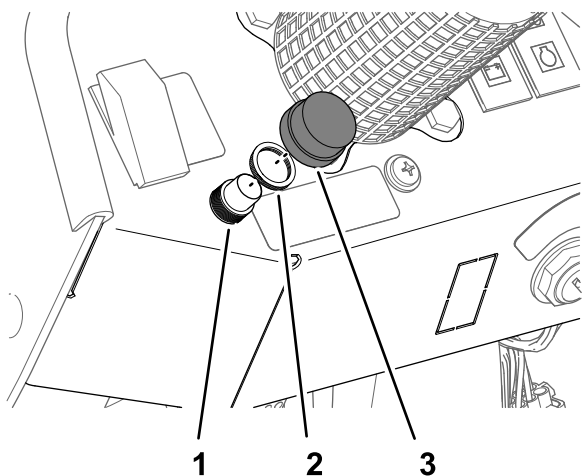

Figure 27
6. Assemble the horn switch to dash panel with the knurled nut (5/8 inch), and tighten the nut by hand (Figure 27).
7. Thread the button onto the threads of the horn switch (Figure 27).